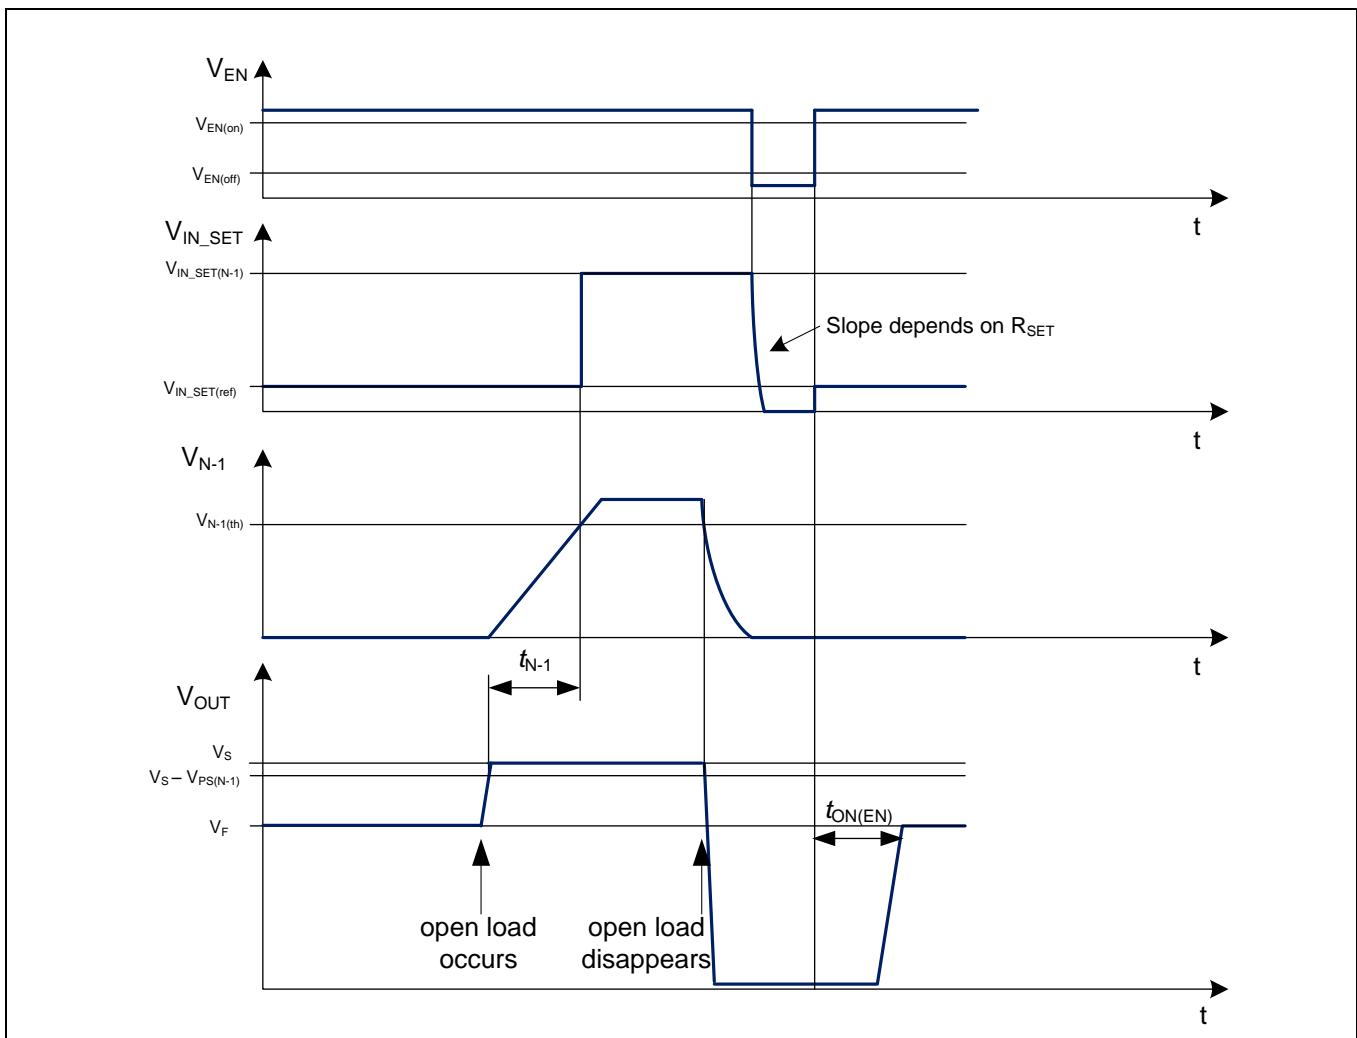

Figure 22 Fault timing during open load (ST pin grounded, IN\_SET used for diagnostics)
- A capacitor is connected to the N-1 pin, to allow adjustment of the filter time used for N-1 fault detection. This filter time is illustrated as an example for an open load condition in Figure 22. The time is calculated using the equation below:
Figures 22 and 23 show the fault timing during an open load. The IN\_SET or ST pin latches the fault until the EN (or  $V_S$  pin) is toggled and a POR is given.